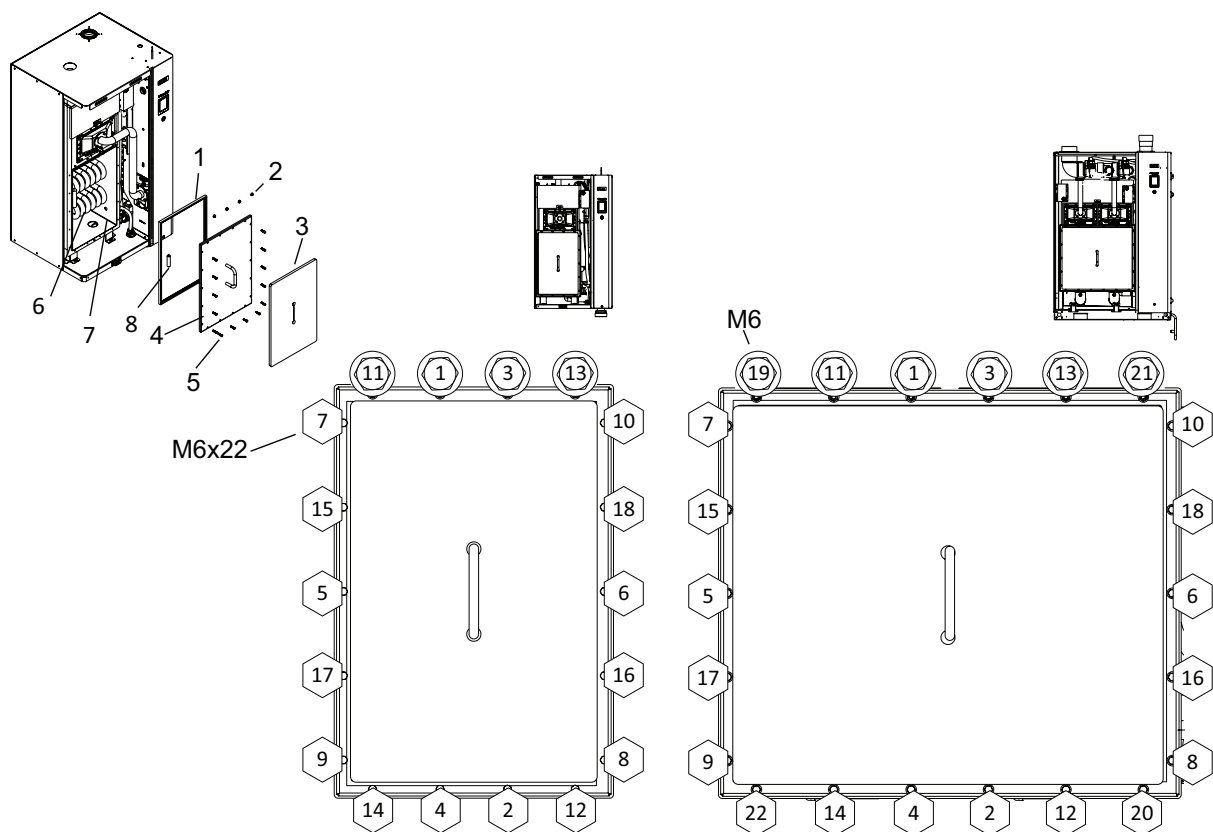

Figure 10: Tank Door Torque Sequence
Clean the inside of the tank, the outside of the primary heat-exchanger coils and the drain fitting as follows. Refer to Figure 10 on page 63. It is not necessary to remove the tank from the unit in order to clean it.
- 8. Install a new tank gasket and secure the tank cover to the tank. **Note:** The order of torquing the bolts for the tank cover are shown in the hexagonal symbols in Figure 10. *Tighten bolts with your fingers and torque at the end of assembly.*